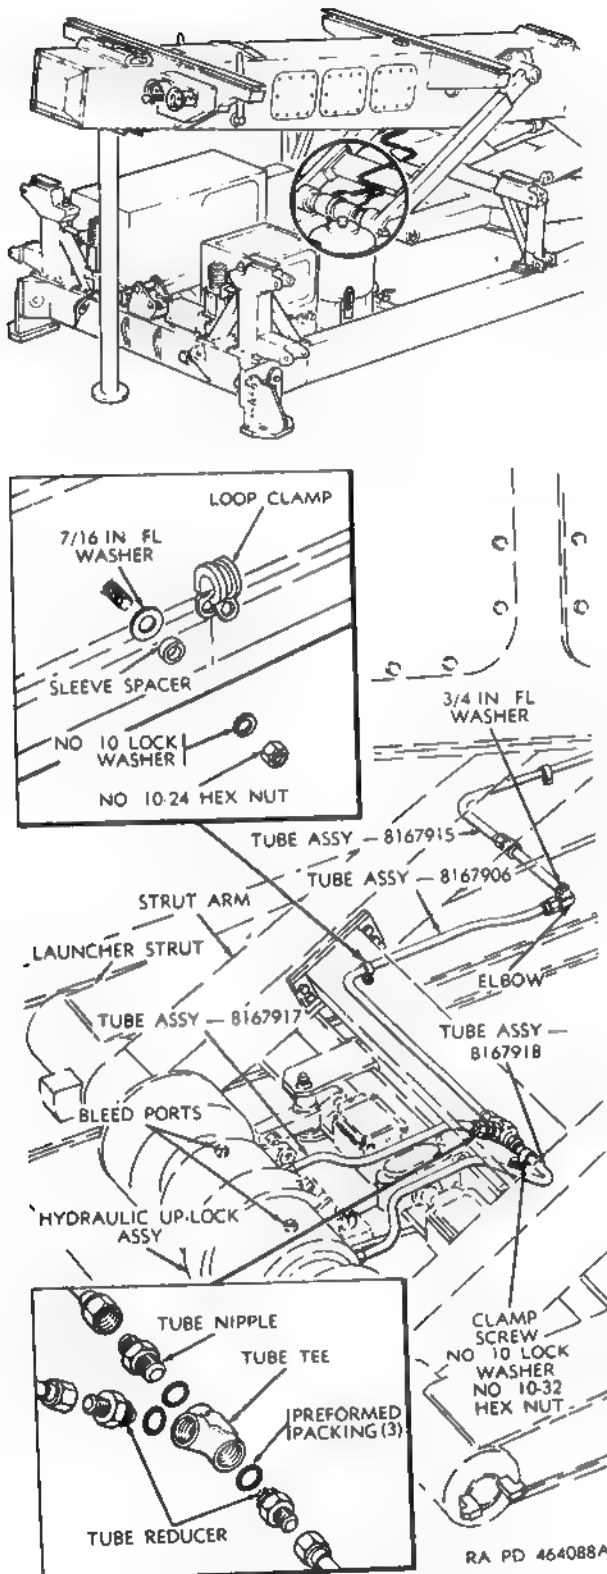
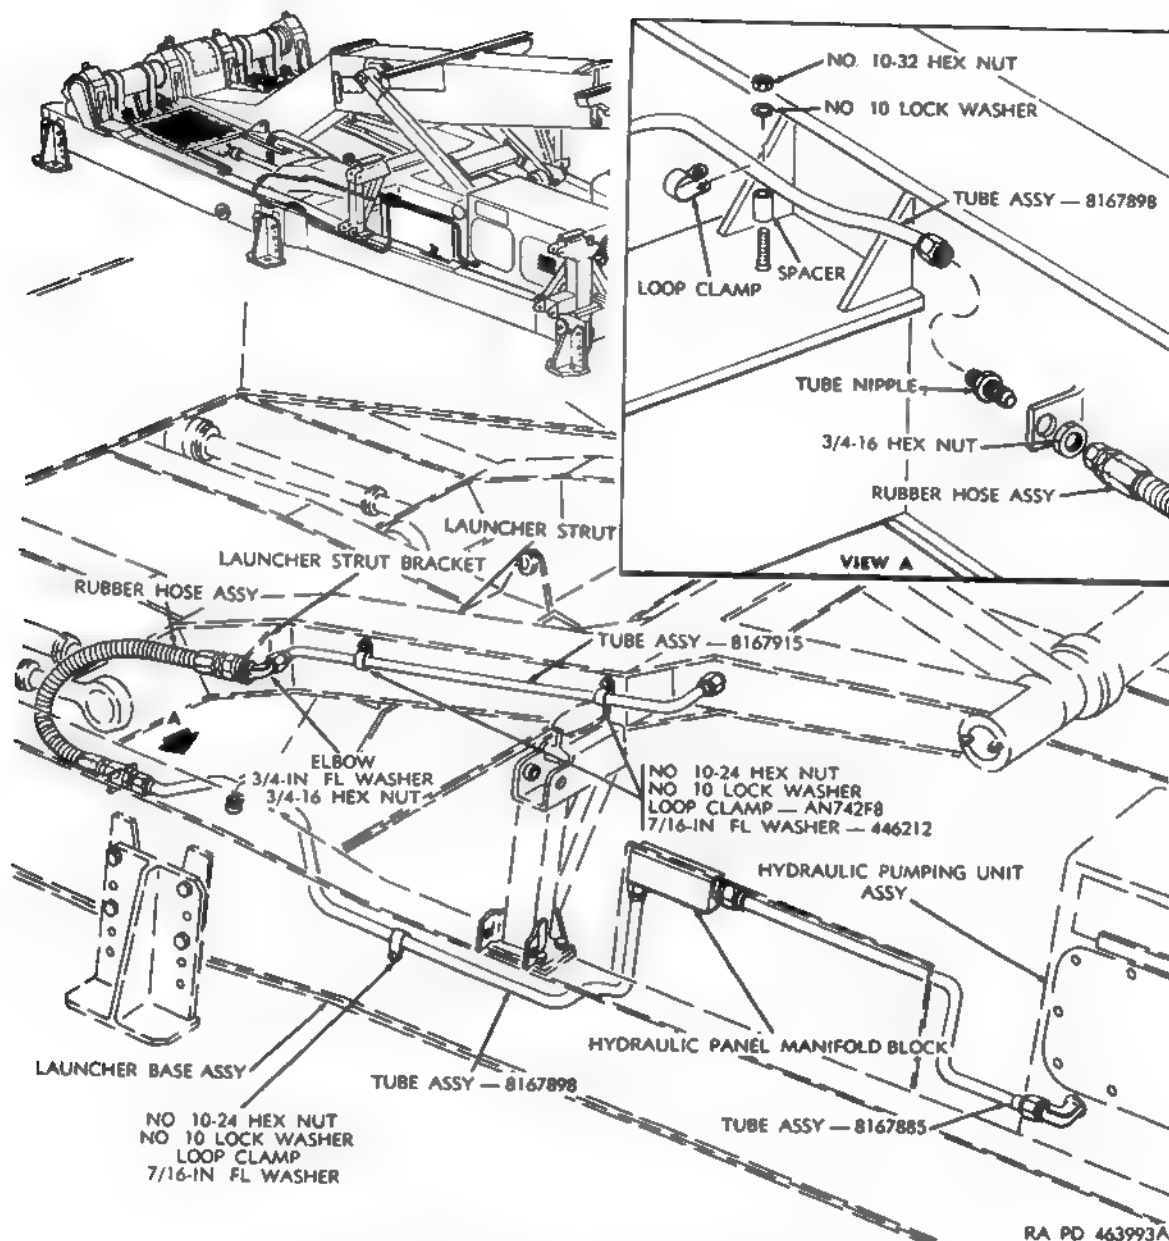

Figure 199. Hydraulic up-lock system hydraulic network—removal and installation.
Figure 200. Hydraulic up-lock system hydraulic network—removal and installation—continued.
200), tube nipples (figs. 199 and 200), tube reducers (fig. 199), and tube tee.
- (6) Remove tube assemblies (figs. 199 and 200); cap all open lines.
- (1) Install rubber hose assembly (fig. 200), tube assemblies (figs. 199 and 200), tube nipples, tube reducers (fig. 199), and tube tee. Torque coupling nuts to values specified below:
- (2) Install loop clamps (figs. 199 and 200) and secure network.